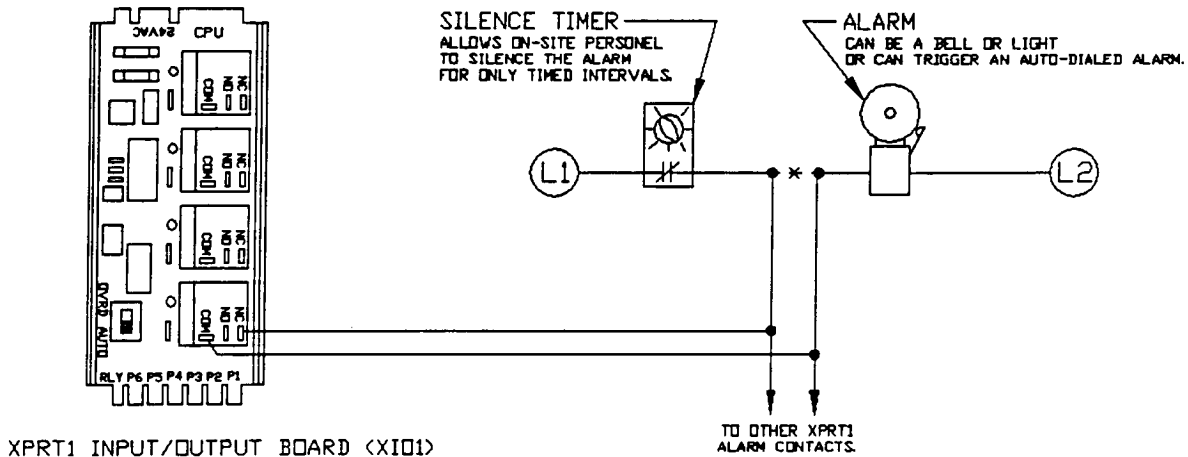

Figure E-5
- The local alarm does not need to be a bell as shown in Figure E-5. It can be a light or even an automatic dialer.